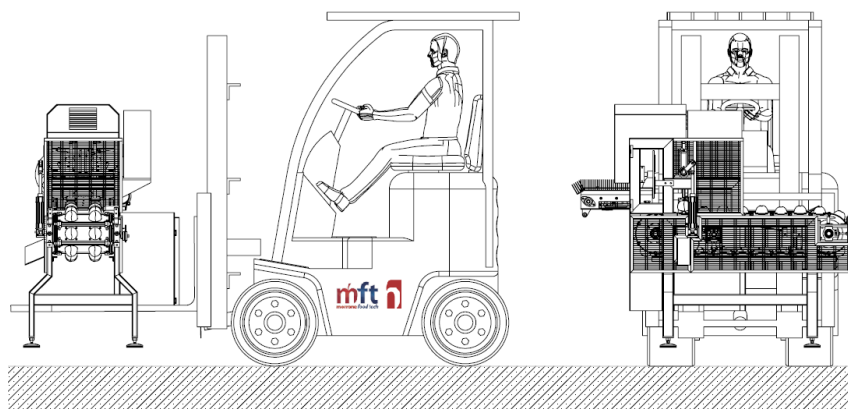

Figure 2 MW-R2 or MW-R2/M machine lifting
**Handling and transport** must be performed **FROM BELOW** making use of lifting gear, with a forklift truck weighing no less than 30 quintals (100 kg), with forks that must be placed underneath the base as indicated in figures 2 and 3.